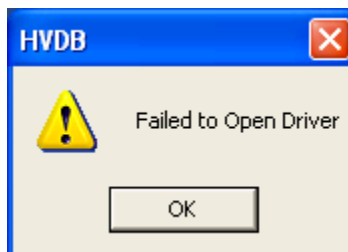
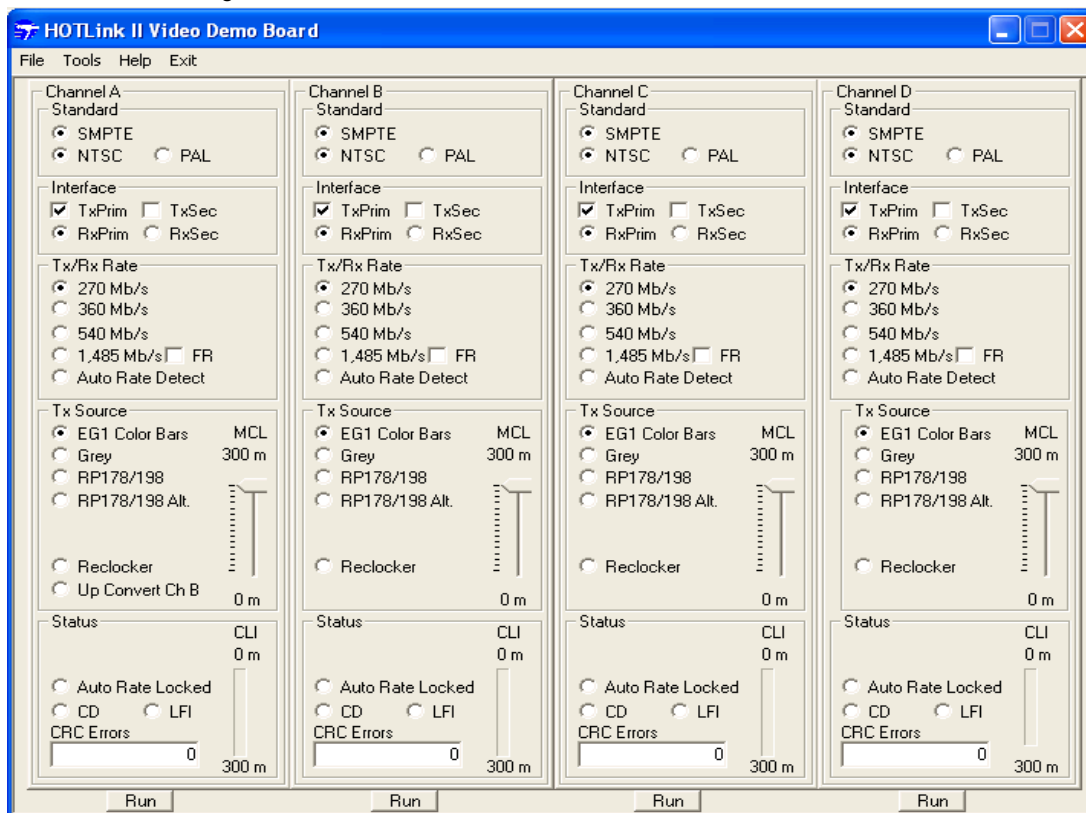

Figure E-10. HVDB Warning
Figure E-15. HVDB Graphical User Interface
4. Click on the HVDB icon on your desktop or Quick Launch taskbar. The HVDB GUI should appear as shown in *Figure E-15* indicating that you have successfully installed the relevant software and hardware on the computer. However, if upon clicking the HDVB icon, the following warning dialog pops up, please follow the rest of the instructions in this section. **Note.** The dialog box shown in *Figure E-10* will also appear if the GUI is launched while the board is powered down.